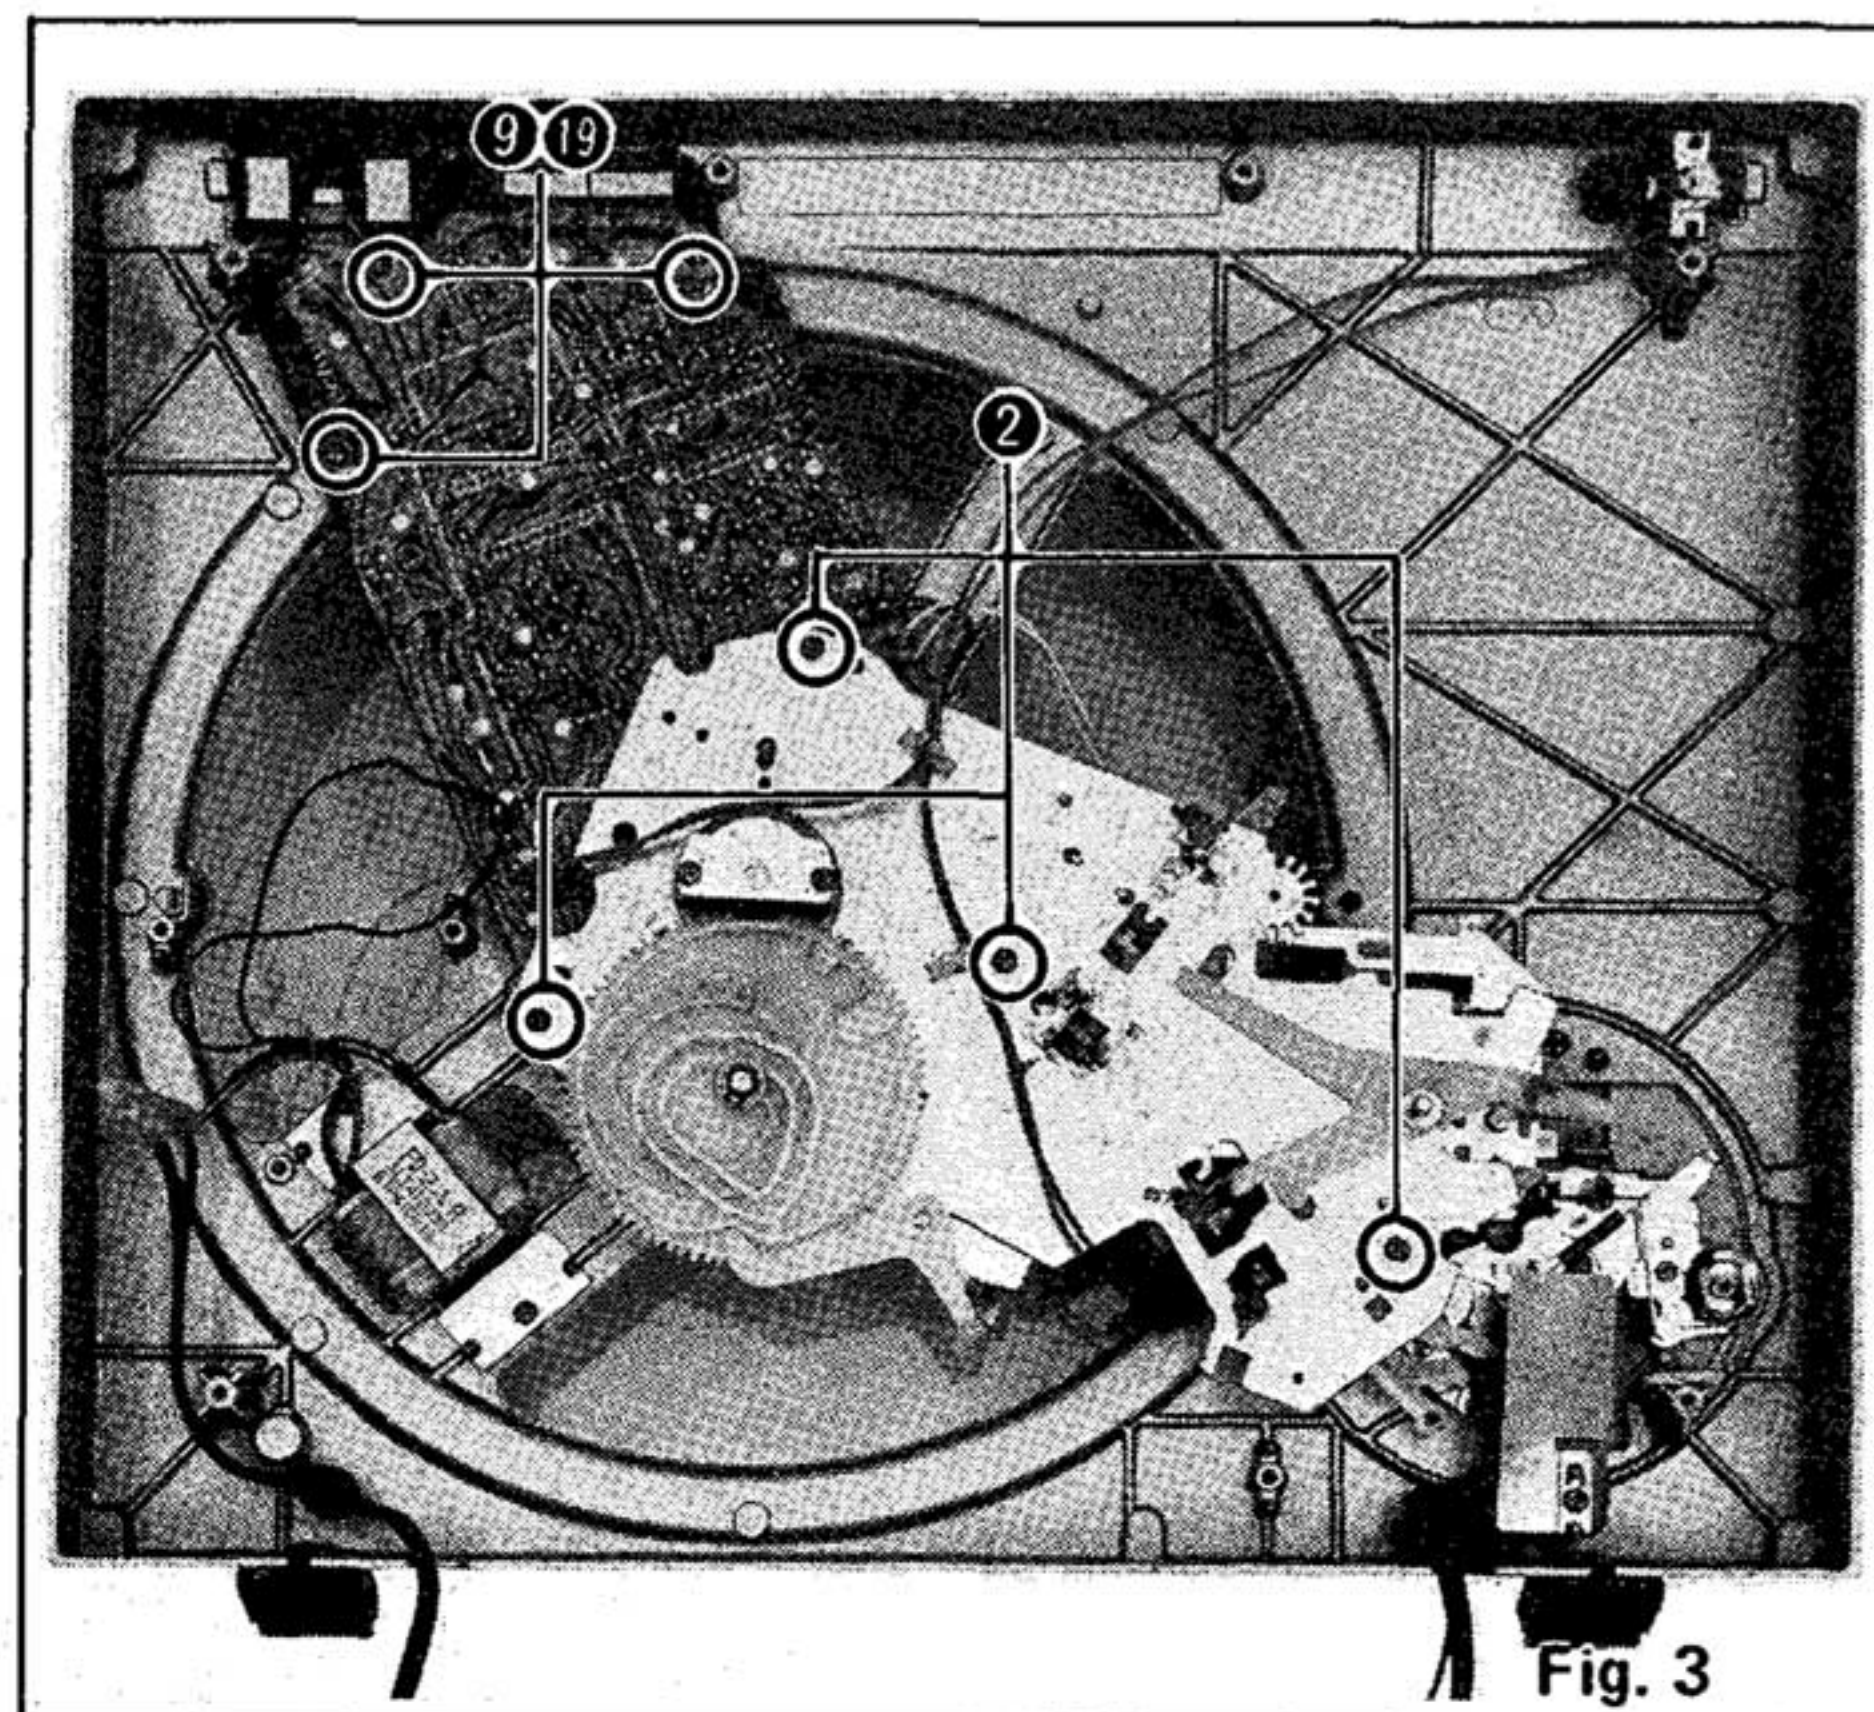

Fig. 3
2. Remove 7 setscrews ②, ⑨ of the drive P.C.B. and auto mechanism ass'y. (See Fig. 3)